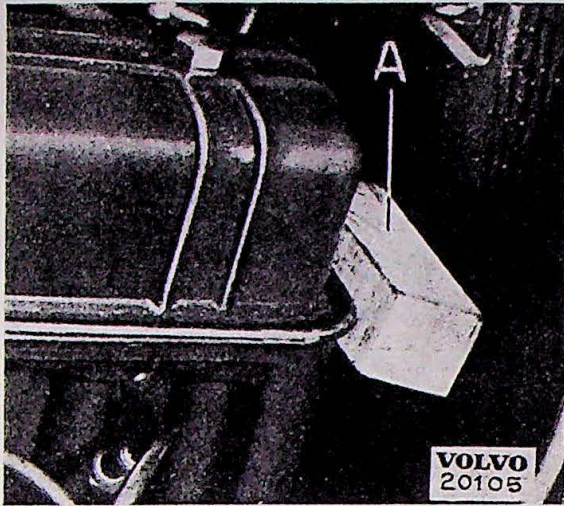

Fig. 6.
7. Loosen front engine supports but do not screw out nuts. Lower gearbox carefully and place a wood block between the engine rear end and the cowl (A. fig. 6).